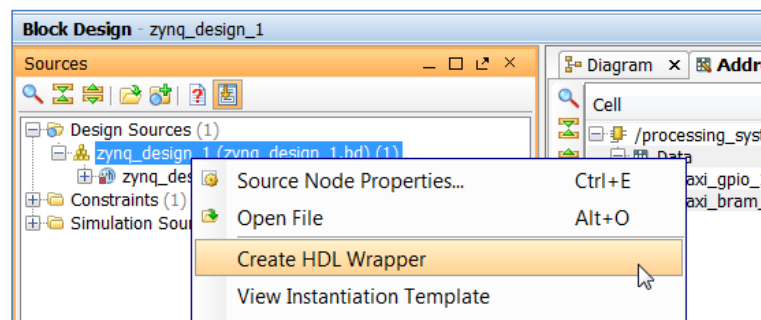

Figure 25: Create HDL Wrapper
3. In the Sources window, select the top-level subsystem source, and select **Create HDL Wrapper** to create an example top-level HDL file (FIGURE 25).